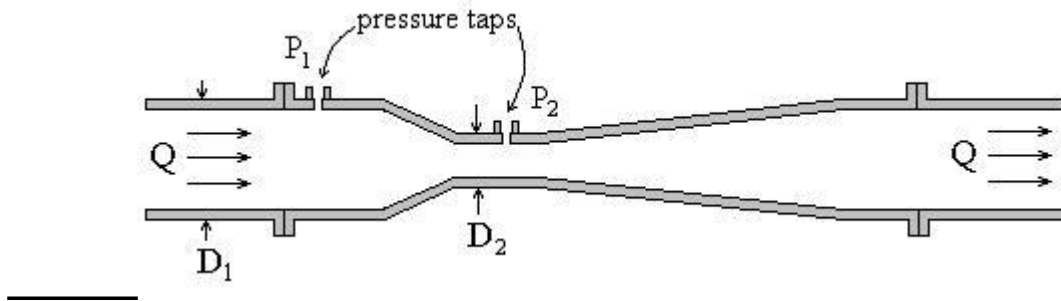

Figure 1. Venturi Meter Parameters
**Venturi Meter:** Fluid enters a venturi meter through a converging cone of angle 15° to 20°. It then passes through the throat, which has the minimum cross-sectional area, maximum velocity, and minimum pressure in the meter. The fluid then slows down through a diverging cone of angle 5° to 7°, for the transition back to the full pipe diameter. Figure 1 shows the shape of a typical venturi meter and the parameters defined above as applied to this type of meter. D2 is the diameter of the throat and P2 is the pressure at the throat. D1 and P1 are in the pipe before entering the converging portion of the meter.